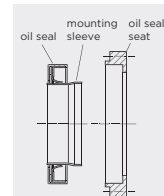

Figure 13-1
3. Install the oil seal together with the mounting sleeve into the oil seal holder with uniform force (Figure 13-1).